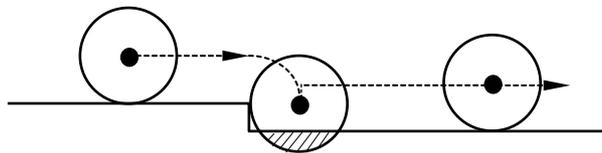

Fig 3-51 Over-cutting (Shaded area)
7. When machining a step-wise work-piece with step size smaller than the tool radius, over-cutting will be produced as shown in Figure 3-51.